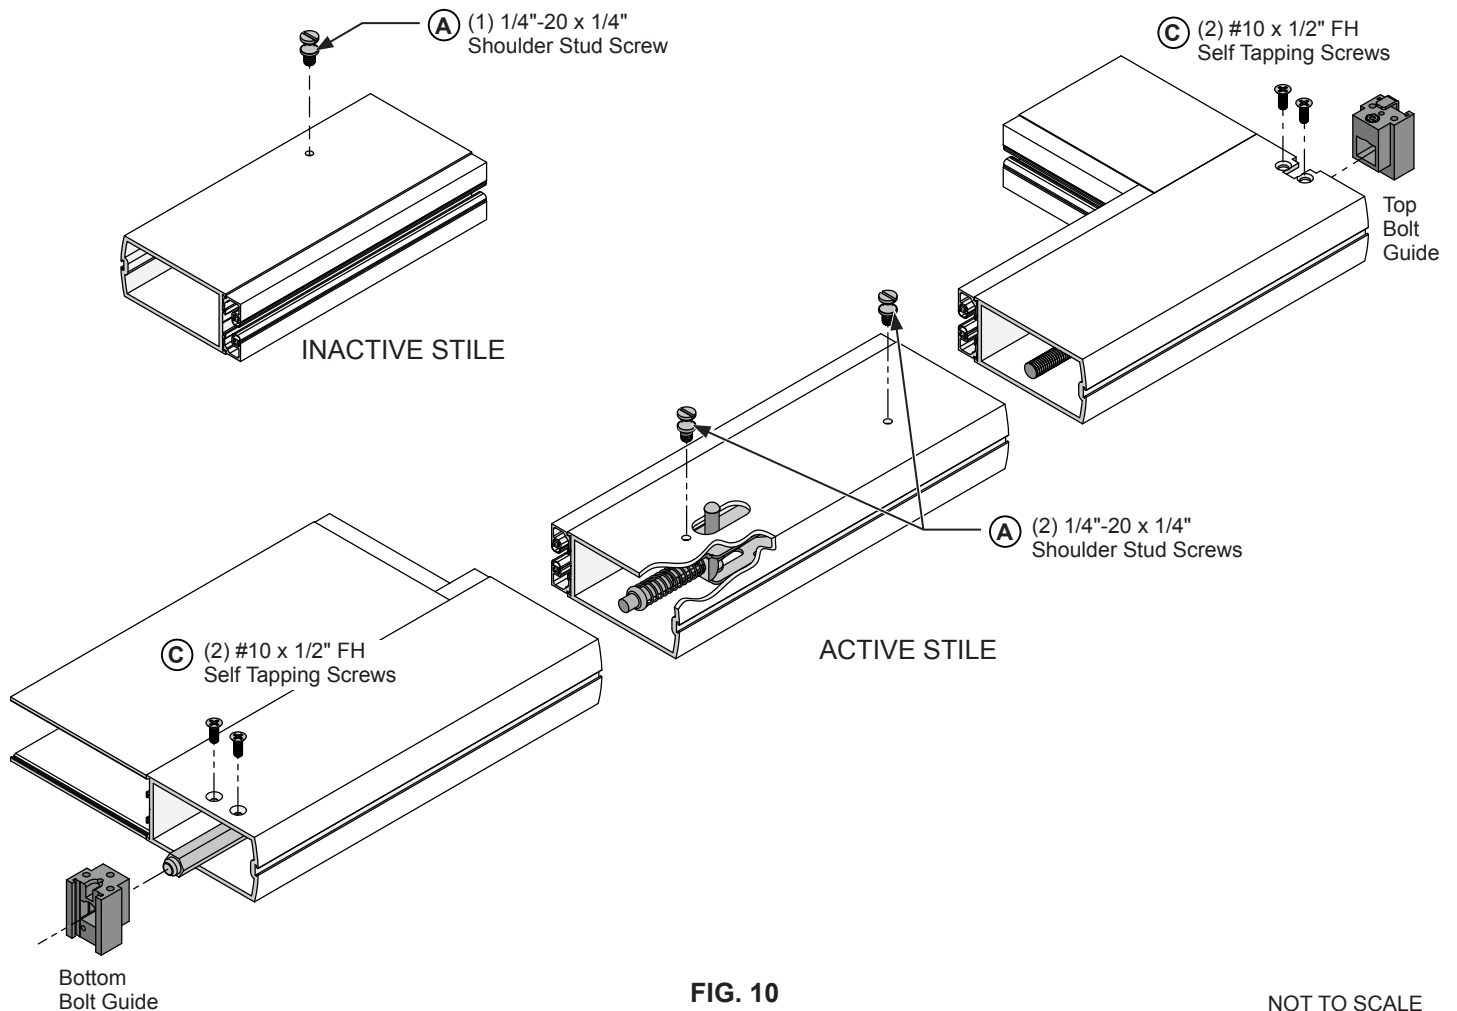

FIG. 10
2. Align actuator pin through the slotted cut-out on interior face of stile, fastening with (A) (2) 1/4"-20 x 1/4" shoulder stud screws. (Fig. 10)
4. Install the top bolt guide assembly using (C) (2) #10 x 1/2" FH self threading screws at the top of the active door stile. The (2) holes face the interior side.
5. Install the bottom bolt guide assembly using (C) (2) #10 x 1/2" FH self threading screws at the bottom of the active door stile. The (2) holes face the interior side of stile.
6. Attach (A) (1) 1/4"-20 x 1/4" shoulder stud screw on the Inactive Stile. (Fig. 10)